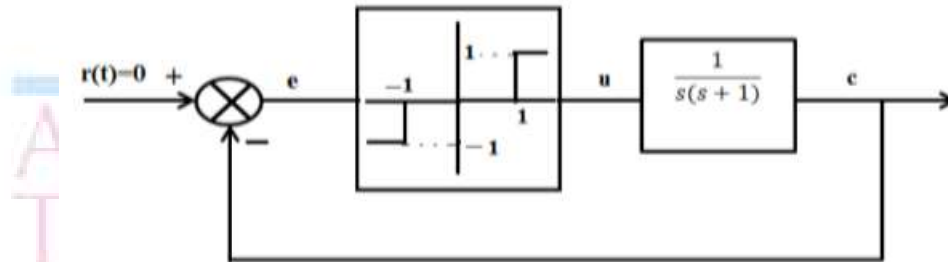

Fig.1
- 6 For the system shown in Fig.1 with relay and dead zone as nonlinear element, draw the phase trajectory originating from the initial condition (3,0) using Isocline Method 7